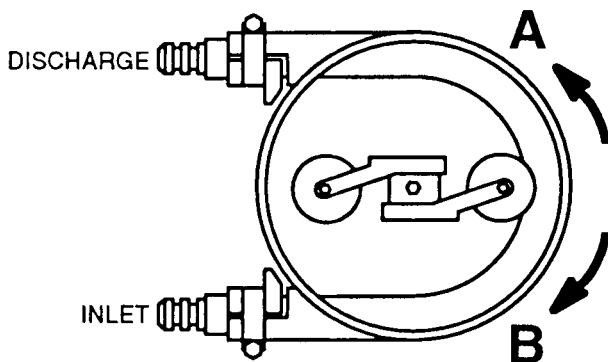

Fig. 2
4. Run the pump and check the direction of rotation ("A" or "B" in Fig. 2). All pumps must rotate in direction "A" (counterclockwise). To reverse the rotation, exchange two of the three wires that connect the incoming power to the motor.